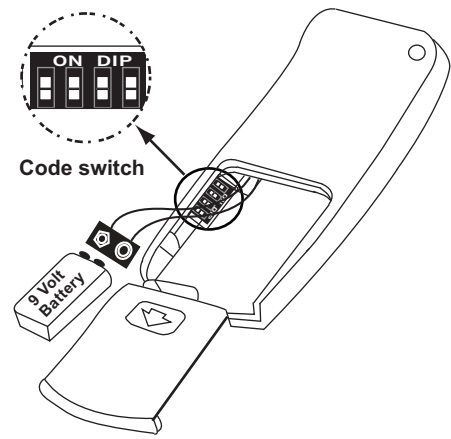

Figure 5
Your DC brushless motor is equipped with an automatically learned type remote control. There are no frequency switches on the receiver; the receiver unit will automatically scan the frequency from the remote control if any changes are made. The frequency settings on the transmitter should be changed only in case of interference or if a second or more ceiling fans with the same type of control system are installed in the same structure. (Fig. 5) (If two fans or more in a house, it is recommended that you not use the factory code settings. Change codes setting to any other combination of dip switch setting to avoid fan interference issues, but users need to do control setting process as below once the code setting is changed. Please refer the "C" "SET" code setting button section.)
Install 9 volt battery (included), to prevent damage to transmitter, remove the battery if not used for long periods. (Fig. 5)
a) Select desired frequency from the back of transmitter. (Fig. 5)